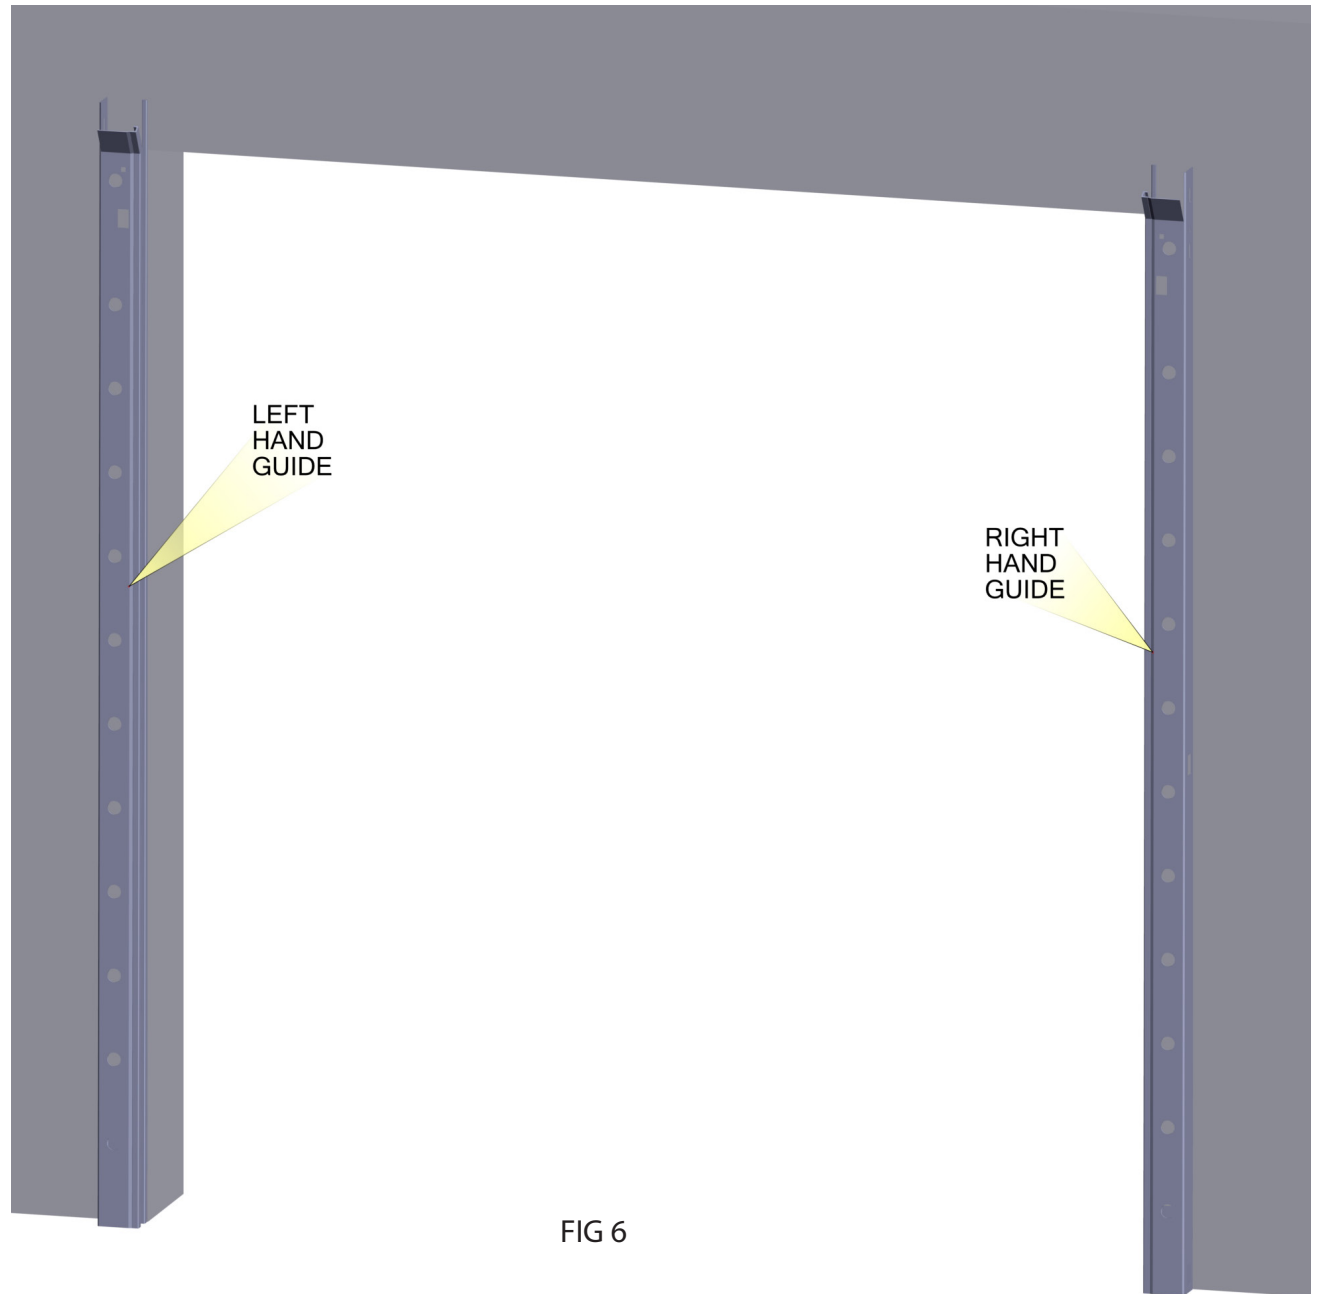

FIG 6
- Mount curtain guides to the surface using supplied fasteners. See FIG 6.
| 3. Door is hard to operate...                                   | <ul style="list-style-type: none"> <li>- Mounting brackets are not level.</li> <li>- Curtain assembly is not parallel to opening.</li> <li>- Door assembly incorrect distance from wall.</li> <li>- Guide leads are improperly adjusted. (Adjustment must be made with door fully closed).</li> <li>- Guides may be damaged.</li> <li>- Insufficient clearance between curtain and inside of guide. (Check Figure 6 for required clearance on both sides).</li> <li>- Mounting brackets too low. Check Figures 3 &amp; 4 for proper location.</li> </ul>   |